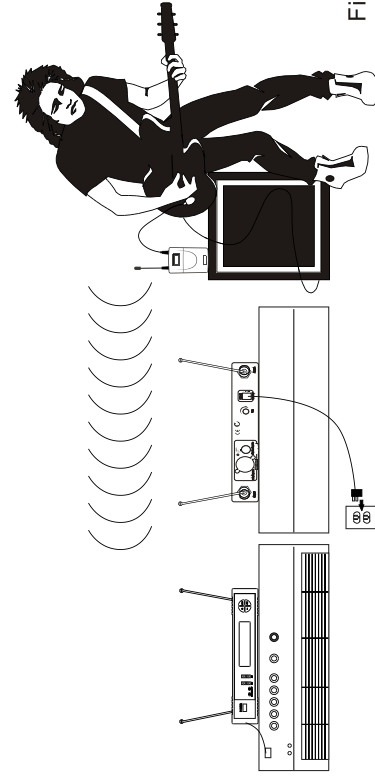

Fig.25
1. Refer to Fig.25 below, connect the AC power adaptor to the DC IN connector on the back of the receiver. Plug the adaptor into an AC wall socket. Push to switch on the receiver. The LCD on the receiver will glow.